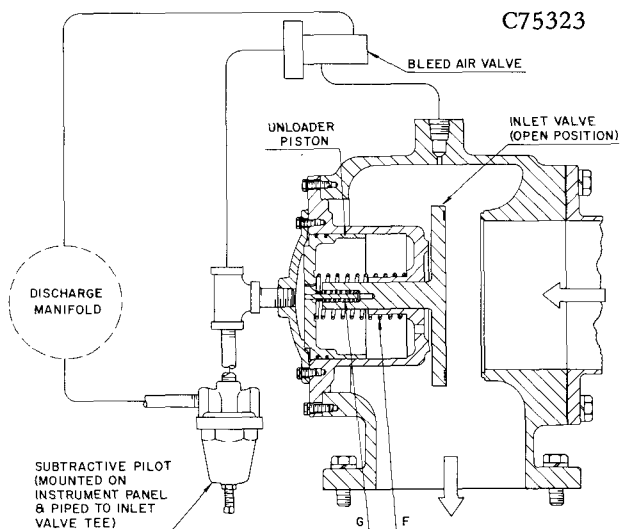
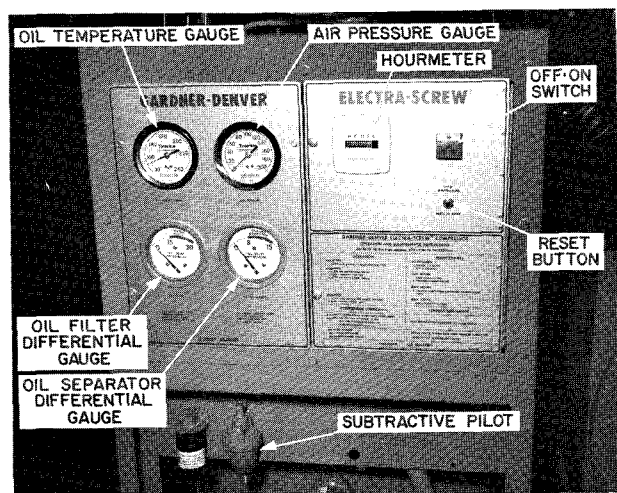

FIGURE 6-4. – INLET VALVE FOR CONSTANT SPEED CONTROL
FIGURE 7-4. – INSTRUMENT PANEL CONSTANT SPEED CONTROL
**INSTRUMENTS AND GAUGES** (Figures 7-4 & 10-4) — Both control system instrument panels incorporate the following:
**CONSTANT SPEED CONTROL SYSTEM** (Figures 1-4, 2-4, 6-4 & 7-4) — The Constant Speed Control System is used where requirements for air are high for long periods, causing the unit to remain loaded most of the time. The control is a stepless pneumatic system which regulates compressor inlet to match the air demand made on the compressor. Effective from 0 to 100% of the compressor capacity, the control opens the inlet valve as air is drawn from the service valve, maintains a constant valve opening as air demand levels off, or closes the valve when the demand ceases. The subtractive pilot and inlet valve are shown in Figure 6-4. The ON-OFF switch and instrument panel are shown in Figure 7-4.
**Inlet Valve** (Figure 6-4) – The inlet valve is a piston-actuated device which controls the compressor inlet and operates on air pressure from the subtractive pilot. The valve is closed when full pressure is on the system and changes degree of opening in direct response to system pressure changes.